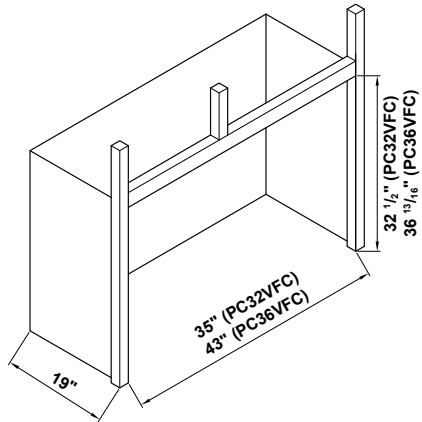
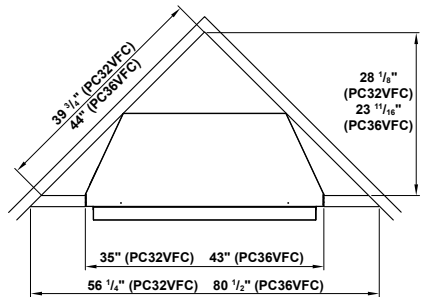

Figure 4 - Rough Opening for Installing in a Wall
Figure 5 - Rough Opening for Installing in a Corner
1. Frame in rough opening. Use dimensions shown in Figure 4 for the rough opening. If installing in a corner, use dimensions shown in Figure 5 for the rough opening. The height is 23.66" (PC32VFC) and 28.11" (PC36VFC), which is the same as the wall opening above.